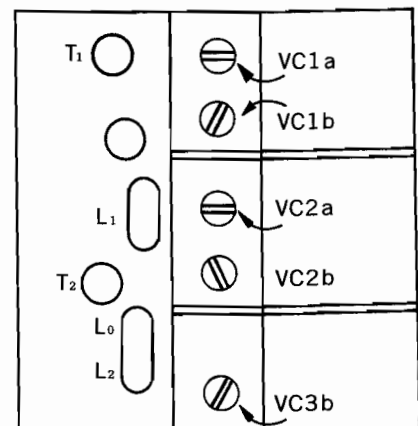

Fig. 7
- Set the tuning dial of AA-8000 to the left end. Turn VOLUME half-way and adjust  $L_2$  of the front end (see Fig. 7) so that the Distortion meter level indicates maximum.
- Set the Signal Generator frequency to 108.5 MHz. Set the tuning dial of AA-8000 to the right end. Adjust  $C_0$  (see Fig. 7) on the front end so that the Distortion meter level indicates maximum.
- Adjust the cores of  $L_1$  and  $T_1$  (see Fig. 7) on front end of AA-8000 so that the Distortion meter level indicates maximum and the distortion factor is minimum.